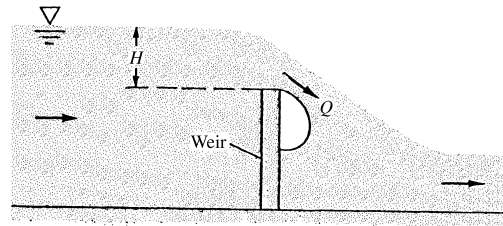

Fig. P5.32
**5.32** A *weir* is an obstruction in a channel flow which can be calibrated to measure the flow rate, as in Fig. P5.32. The volume flow  $Q$  varies with gravity  $g$ , weir width  $b$  into the paper, and upstream water height  $H$  above the weir crest. If it is known that  $Q$  is proportional to  $b$ , use the pi theorem to find a unique functional relationship  $Q(g, b, H)$ .